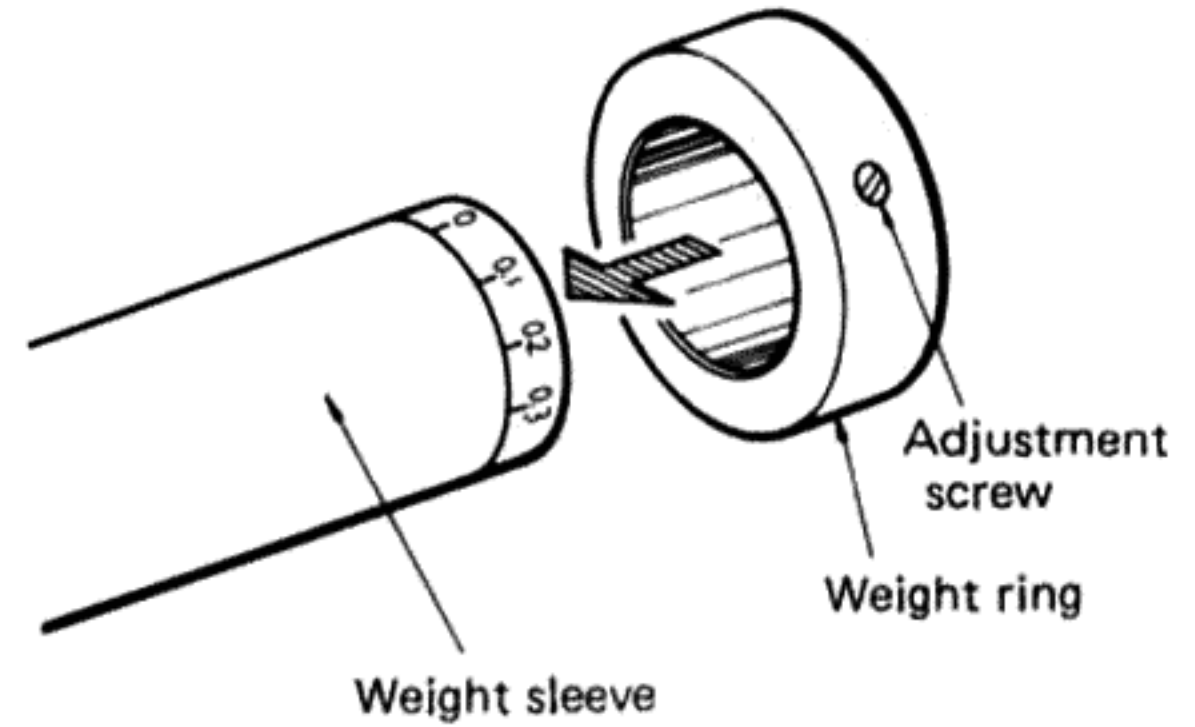

Fig. 7
- (2) Insert the weight ring into the weight sleeve through the stylus force scale, as shown in Fig. 7.
- (3) Although the weight ring is factory adjusted so that it slides smoothly on the weight sleeve, you may wish to adjust the friction adjustment screw with the supplied screw driver if the movement is too tight or too loose.